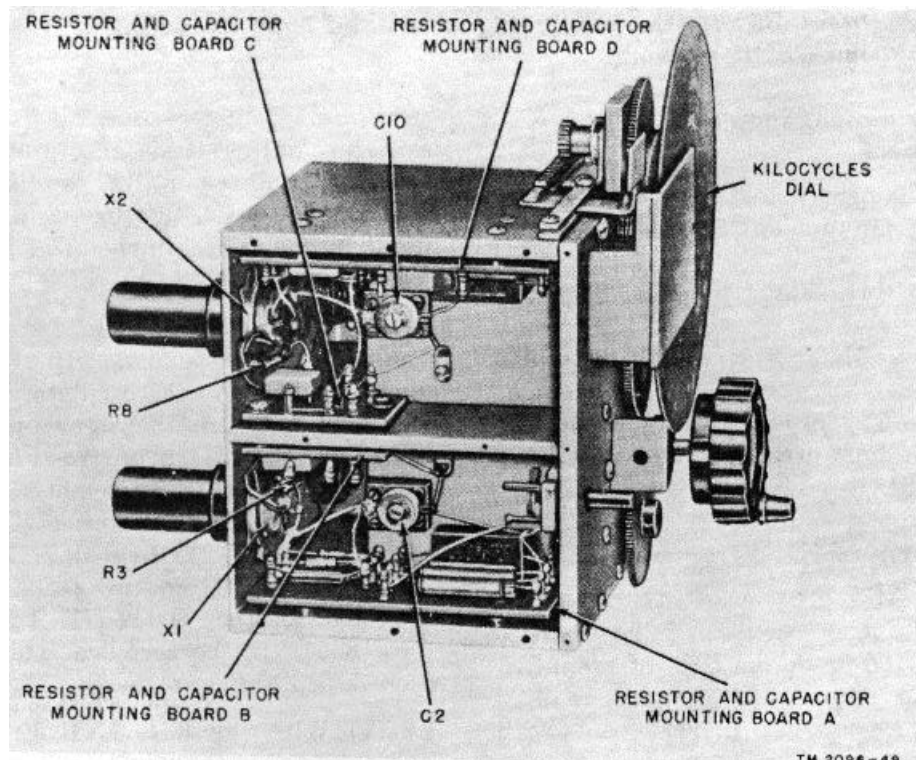

Figure 7-10. Signal Generator SG-15/PCM, top view of oscillator assembly showing location of parts.
b. After Replacing Resistor or Capacitor, Signal Generator SG-15/PCM. After a resistor or capacitor in the variable-frequency oscillator has been replaced, it will become necessary to adjust capacitor C10 (fig. 7-10). If